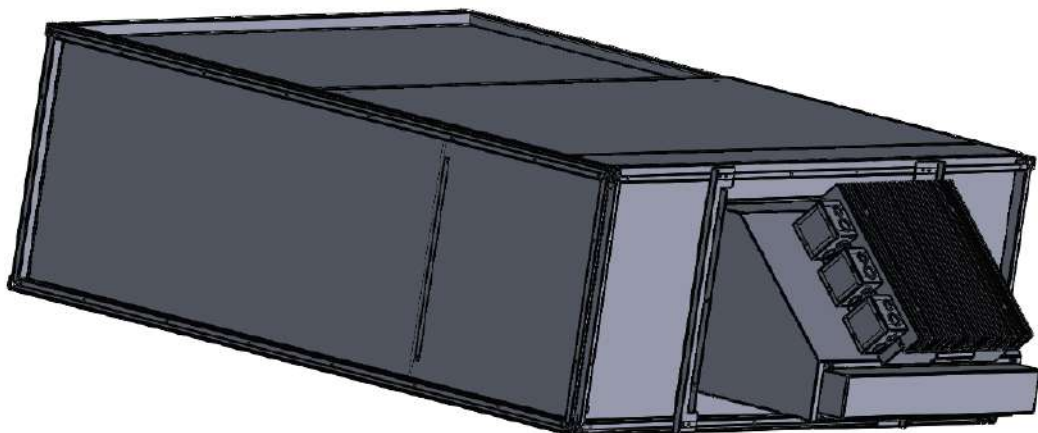

Fig. 42 Installation sequence - Step 14B
- A. Open the lid of the junction box with the “POWER LINE” label (Figure 42).
- F. Repeat these operations on the junction box with the “DALI LINE” label for the DALI connections (Figure 42).